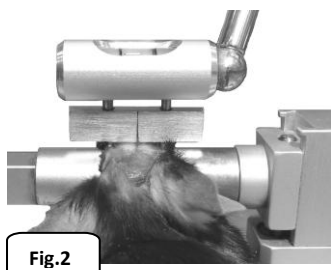

Fig.2
2. Place the probe so that it is perpendicular to the sagittal suture to ensure that the vertical marker on the moving plate between the pins is exactly above the sagittal suture (Fig. 2). Press gently down on the probe with your finger to ensure that both pins touch the skull.